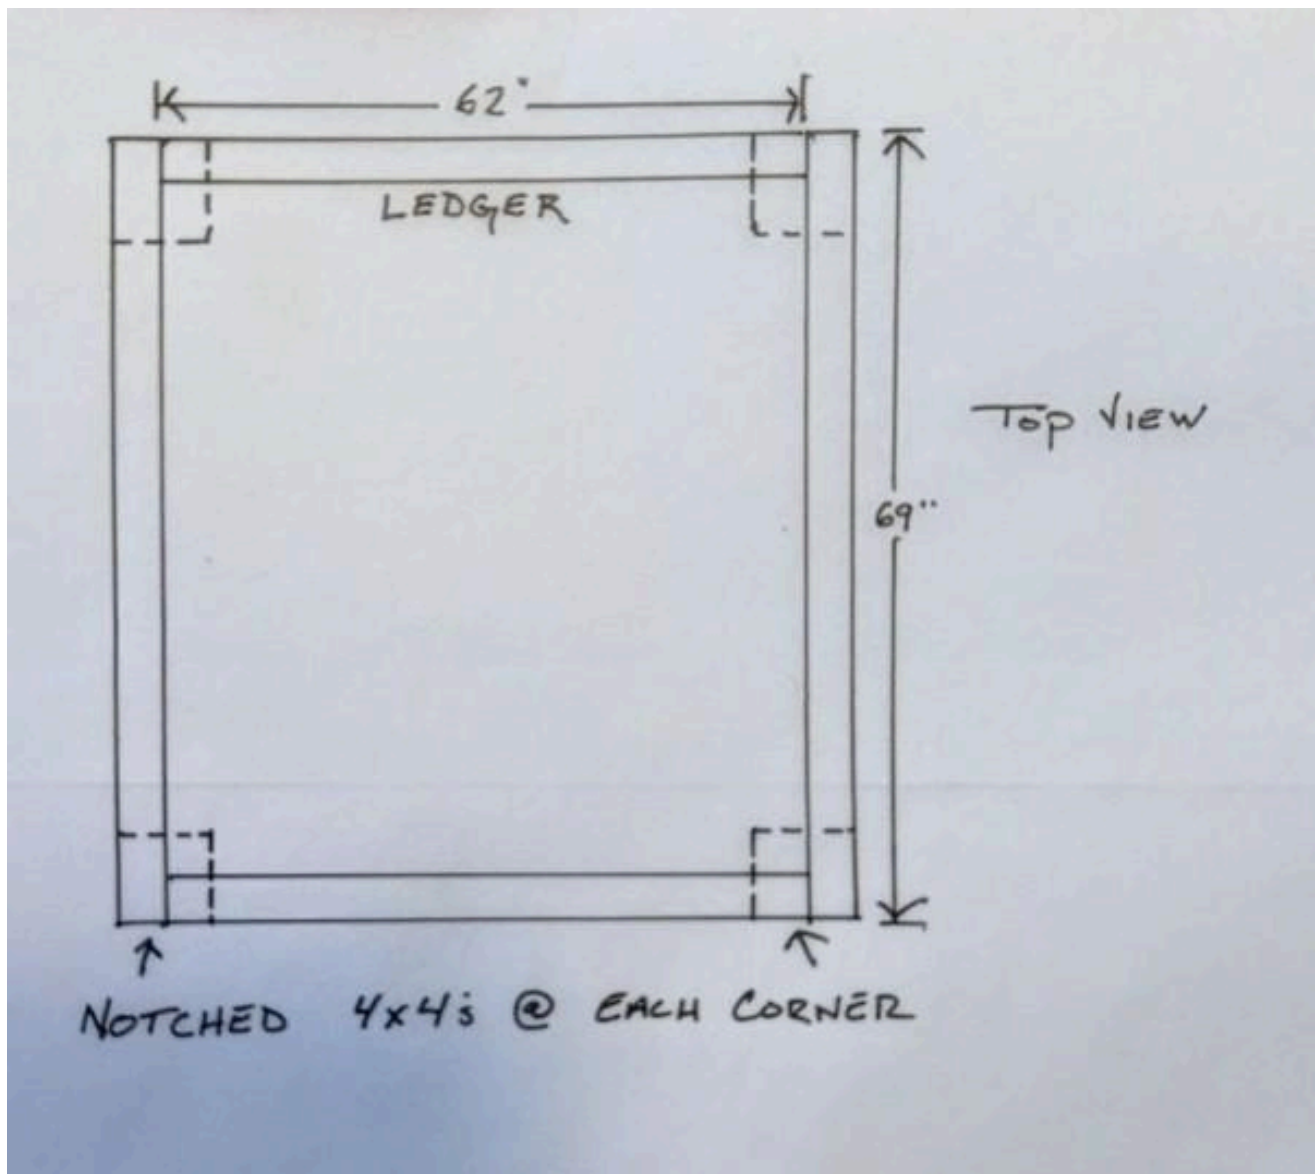

Figure 1
- Assemble the ledger board and band joists - essentially a box that the rest of the structure will be built upon. See Figure 1 (The ledger attaches to your house and the other three boards are the band, or rim, joists.) Use three 3" screws at each corner. We built this frame on the ground and lifted it in place, supporting it with two temporary braces at the outside corners, and, after leveling, secured it to the cottage structural members with 4 $\frac{1}{2}$ " HeadLOK screws.